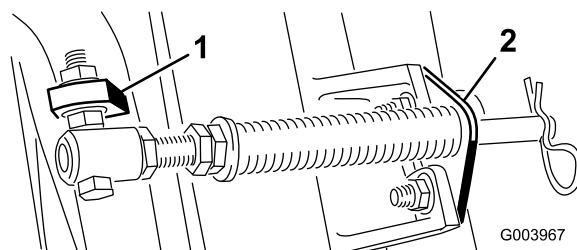

Figure 6
- C. Mount the spring tube bolt to the opposite tab on the carrier frame and secure with the flange nut. The bolt head is to be positioned to the outer side of the tab as shown in Figure 6.
- D. Mount the rod bracket to the cutting unit tabs with the carriage bolts and nuts (Figure 6).